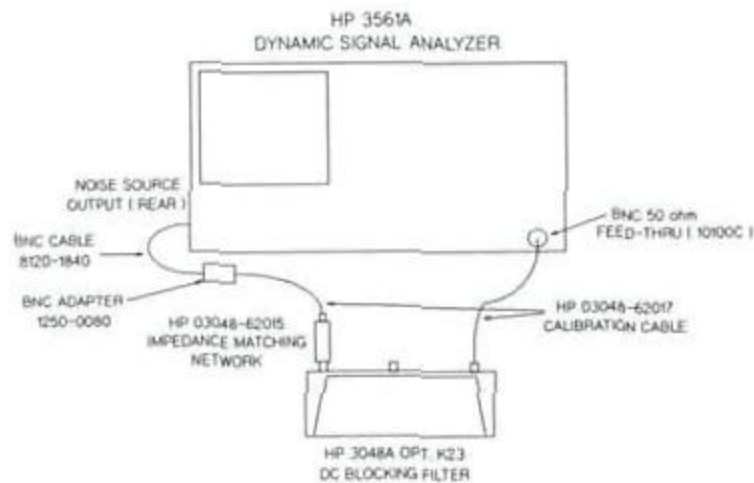

Figure 3-4. Setup for Flatness Test with HP 3561A
6. Replace the calibration load with the DC Blocking Filter as shown in figure 3-4 and set the 'DETECTOR POLARITY' switch to the 'POS' position.